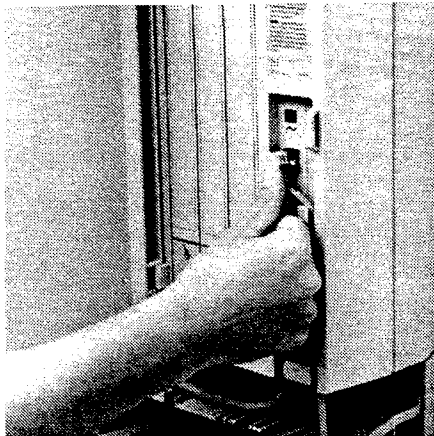

Figure 3.18 - Plug in TM DS-30 cable
1. Plug one end of the DS-30 cable into the DS-30 port on the front of a TM or SM (as shown in both Figures 3.18 and 3.19).